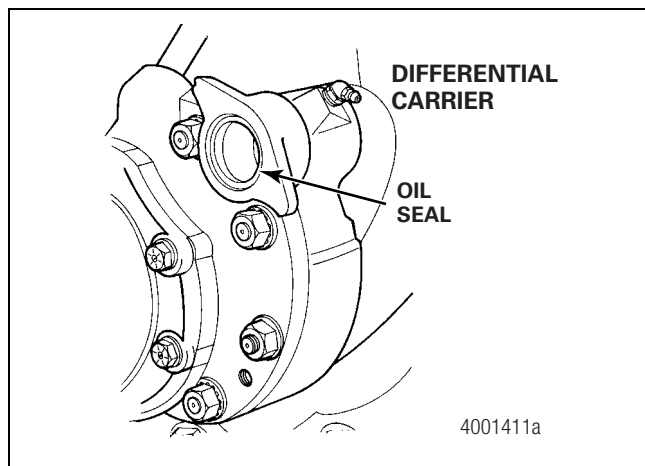

**Figure 5.20**
- Machine the dowel length "A", 0.16-inch (4 mm) shorter as shown in Figure 5.20.